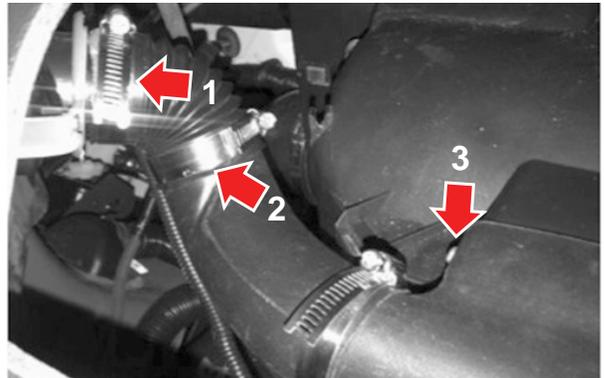

Figure 23-3
3. Using self-tapping screws (3), attach the center adapter (A6000079-001) on LH and RH edges (LH edge shown in figure 23-3 - arrow 3), and on the top portion on the LH and RH (see Figure 23-3).